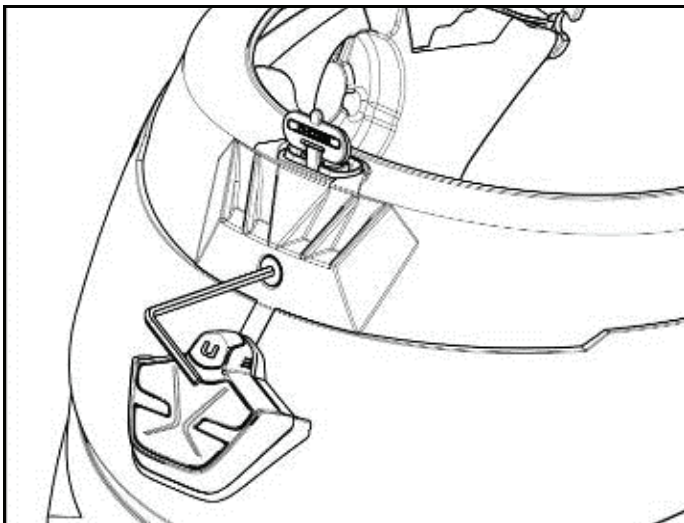

Fig. 7
- Reassemble the edge gasket, securing it with the special screw (Fig. 7).